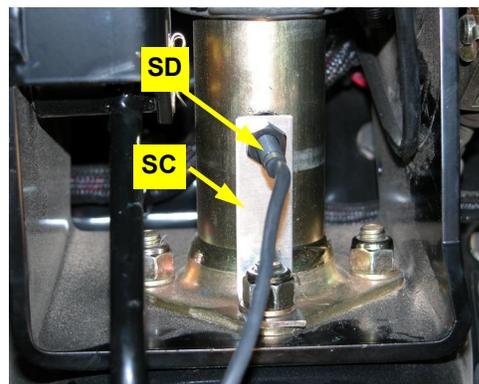

Figure 1d: Installed sensor arm
- d. Attach sensor **SD** to the bracket **SC**. Fasten the sensor arm to the steering shaft shield flange with the nut removed at step 1c (Figure 1d).
- e. Align the sensor **SD** with the magnets and adjust the sensor face to 1/4" to 1/2" from the magnets (Figure 1d).